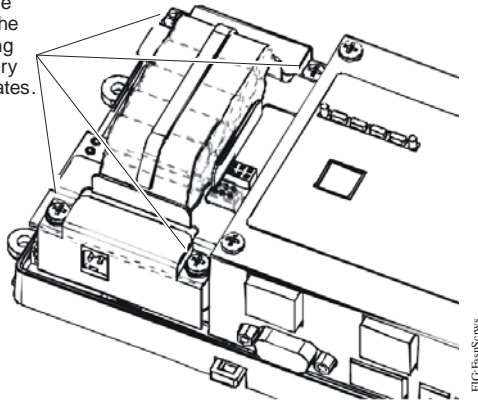

Figure 6: Refastening Screws
10. Place the four screws through the battery bracket, through the end plates, and into the standoffs on the FX Supervisory Controller (Figure 6). Lightly tighten these screws with a screwdriver.